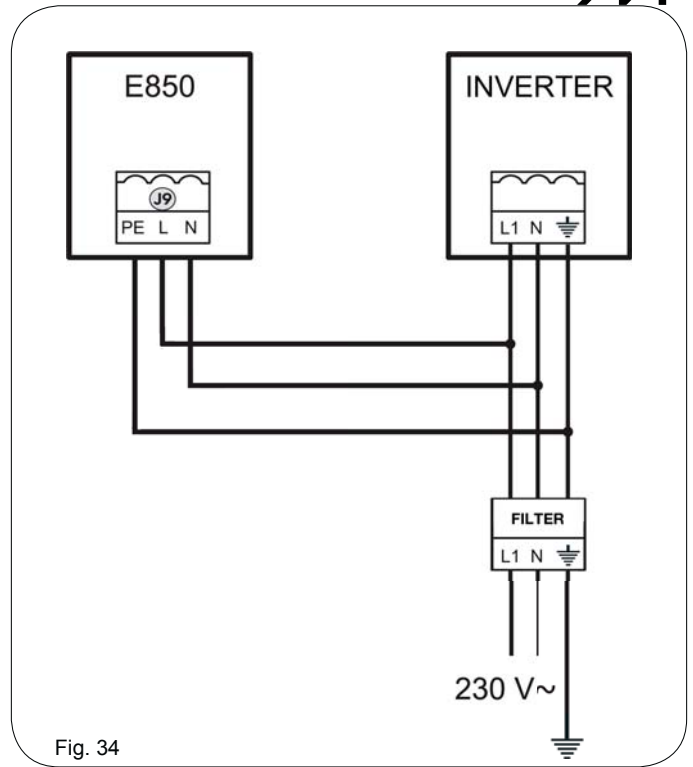

Fig. 34
**11.4.5 TERMINAL BOARD J9 - POWER SUPPLY (FIG. 34)**